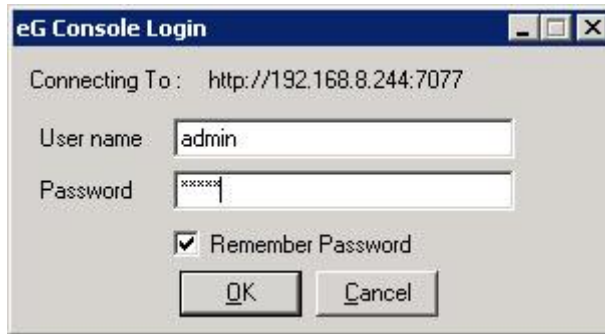

Figure 2.24: Login credentials for accessing the eG management console
8. If you now click on the **Diagnose using eG** option in the **Actions** pane of your SCOM console, you will be prompted for the login credentials (see Figure 2.24) for accessing the eG monitoring console. This prompt will appear only when you click the **Diagnose using eG** option for the very first time. Provide valid login credentials and click the **OK** button in Figure 2.24. This will automatically invoke the eG monitoring console. The same credentials will be used to launch the eG monitoring console during all your subsequent attempts to **Diagnose using eG**.